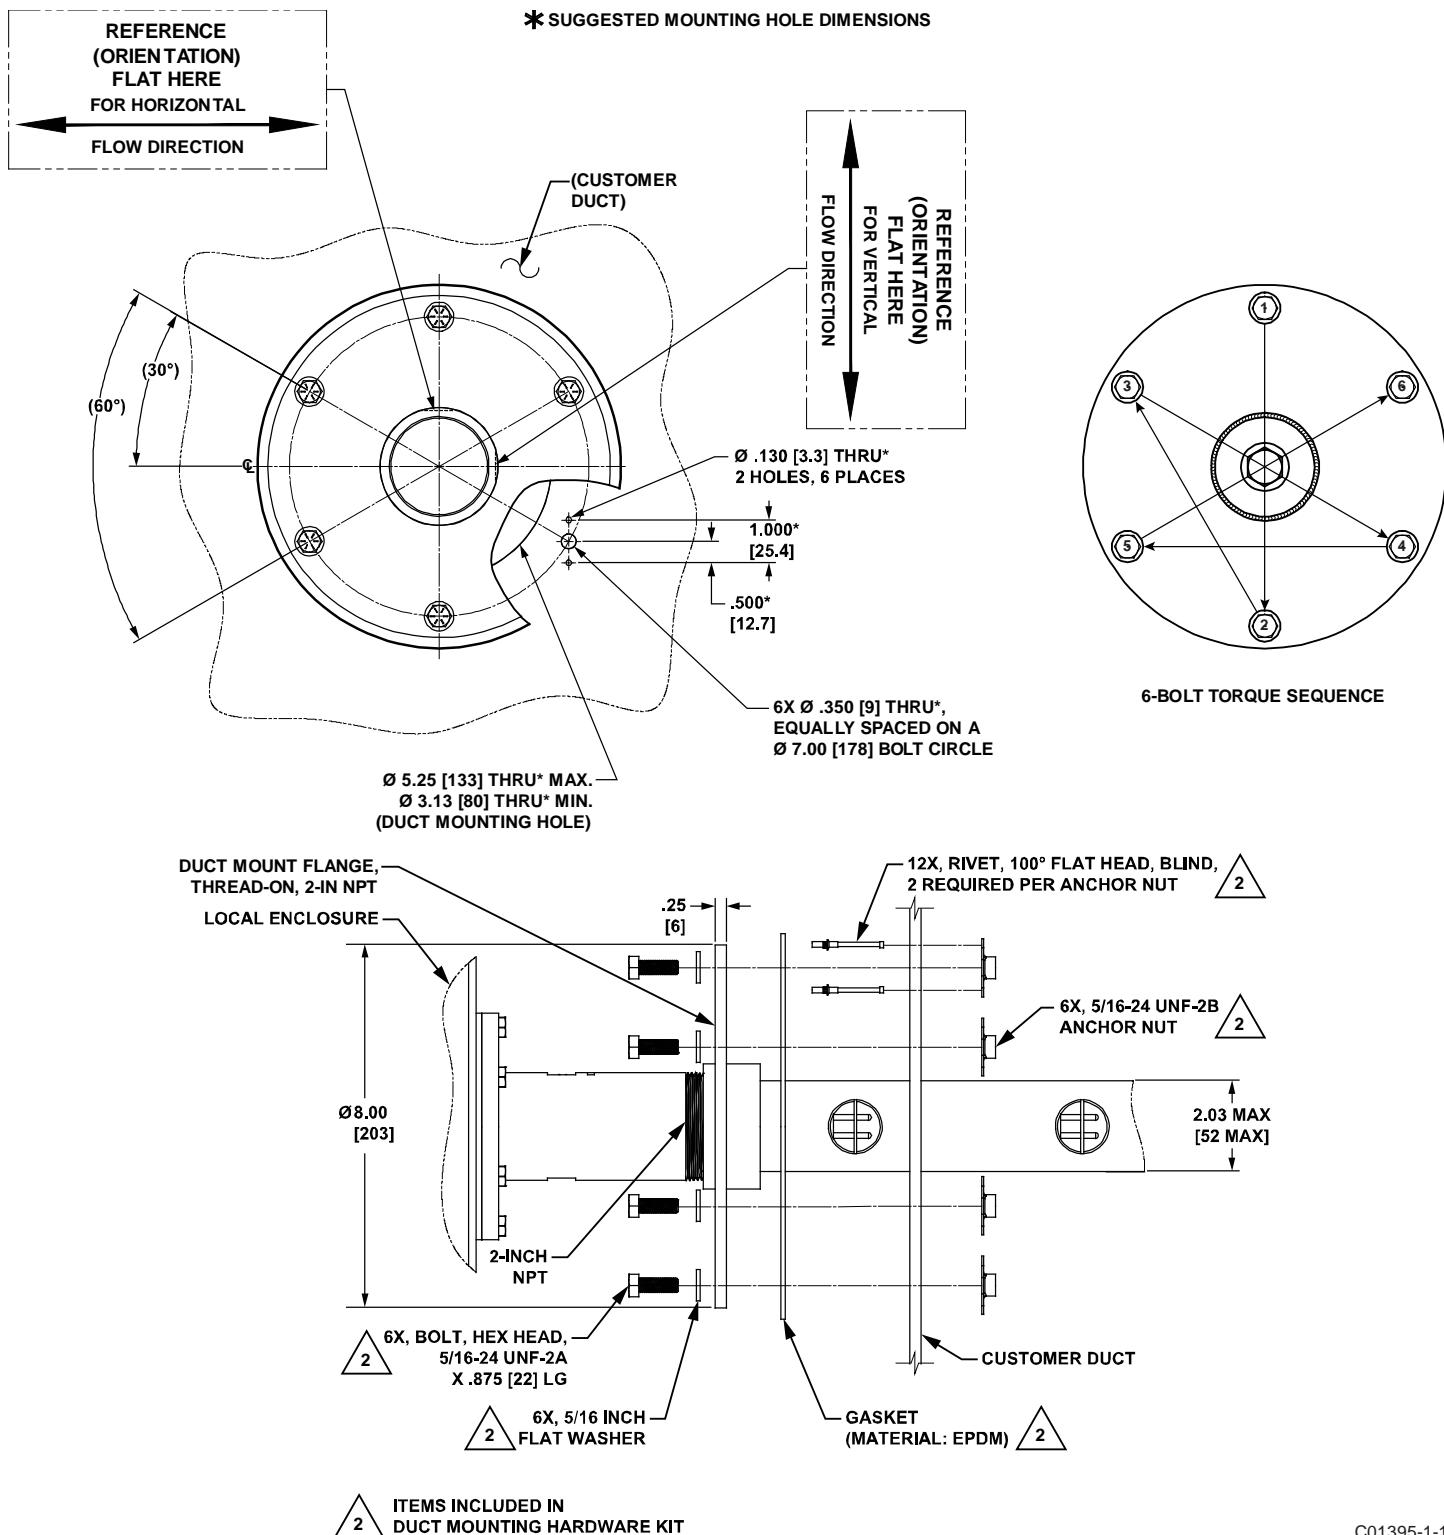
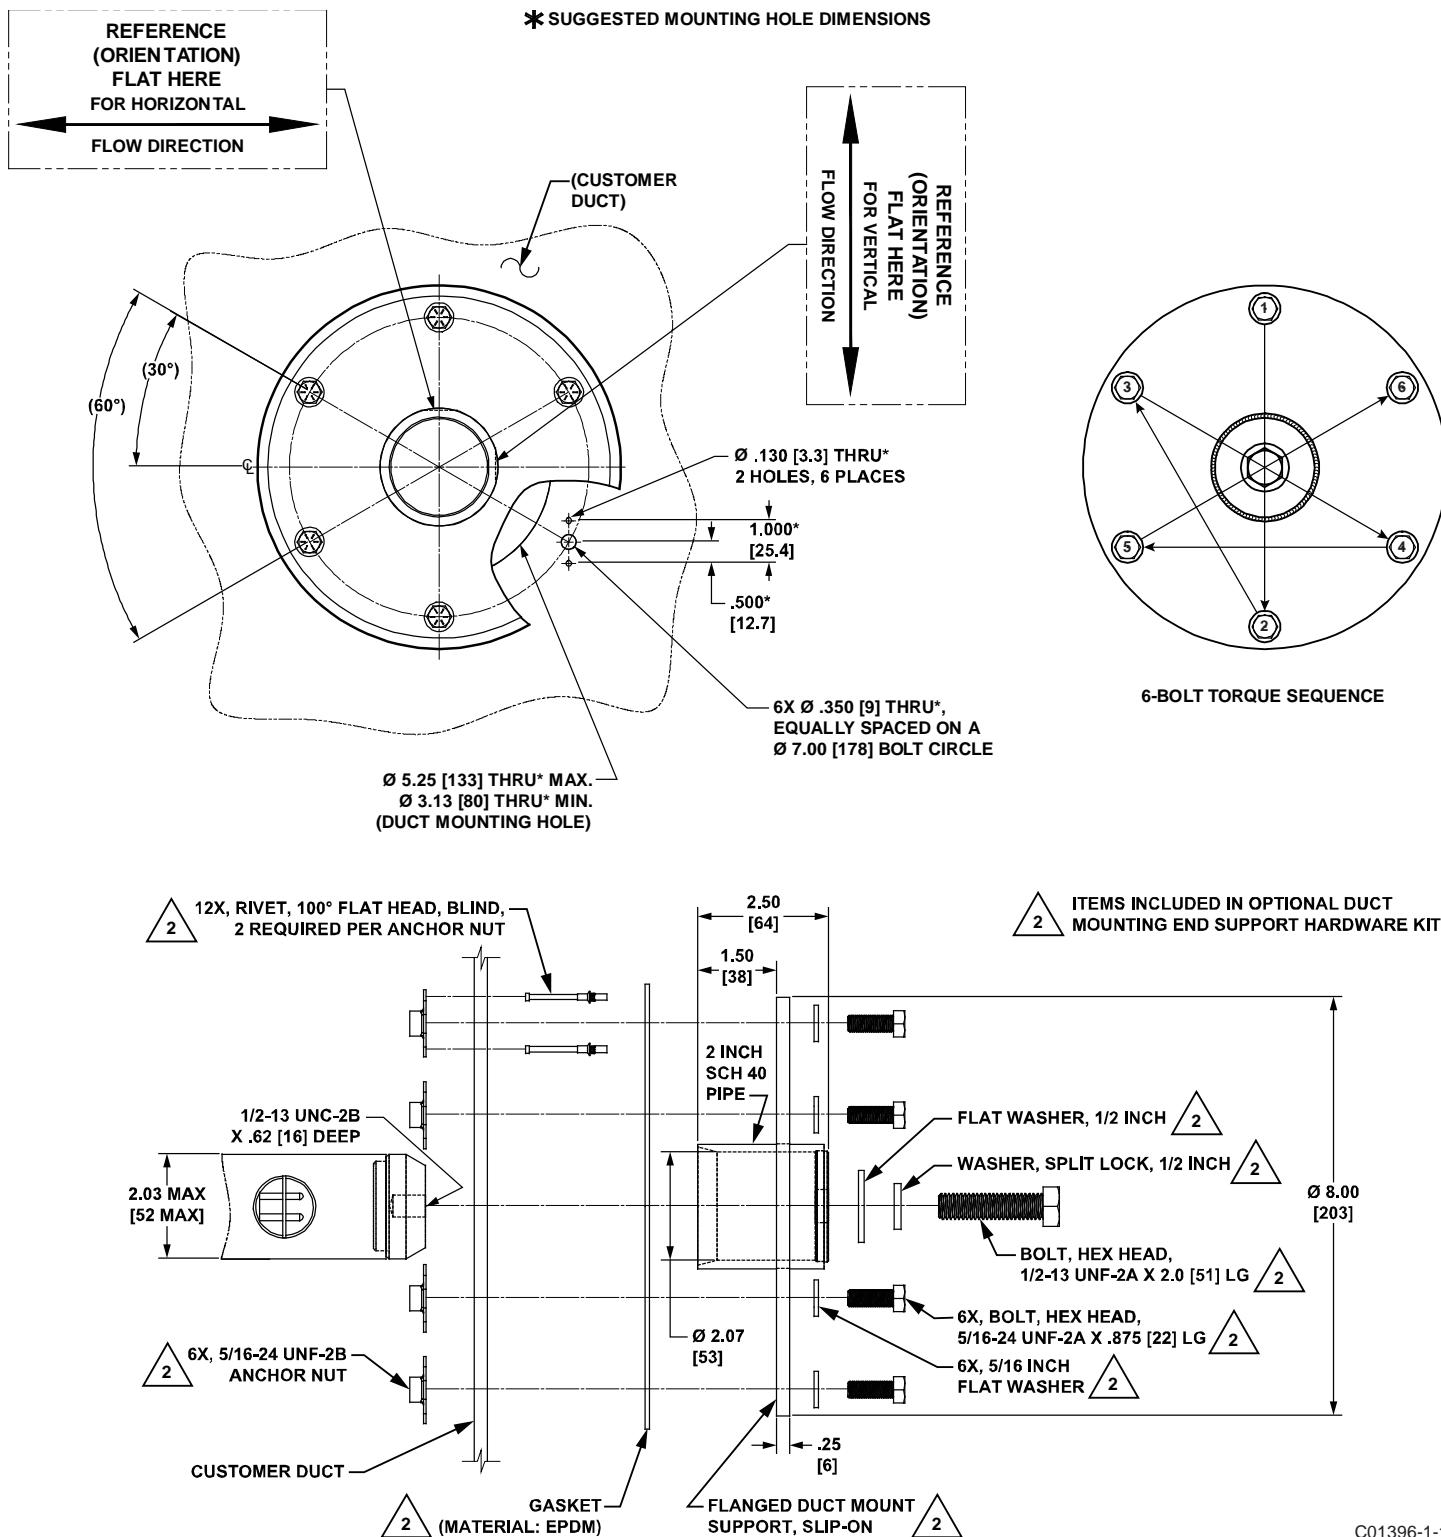

Figure 4 – Duct Flange Mounting, Dimensions, and Mounting Hardware
Figure 5 – Duct Flange Mounting, End Support Hardware (Optional)
1. The exact placement of the flow element is typically predetermined at the time of order. Use hole pattern and hole sizes as shown in Figure 4, page 9 to drill holes for flow element duct mount flange. On opposite side of duct use hole pattern and hole sizes as shown in Figure 5, page 10 to drill holes for flow element duct mount end support.
2. Using supplied end support mounting kit hardware, install flow element's end support as shown in Figure 5. Loosely torque end support securing bolts (6 ea. 5/16-24UNF x .875 lg).
4. Using supplied duct flange mounting kit hardware, install flow element to process duct as shown in Figure 4. Using star pattern bolt torque sequence shown in Figure 4 gradually torque duct flange securing bolts (6 ea. 5/16-24UNF x .875 lg) with final bolt torque at 10 ft-lbs (13.6 N-m).
5. With flow element assembly standpipe captured within end support sleeve loosely install 1/2-13UNF x 2-inch long bolt (included in optional end support mounting kit) into end support sleeve, engaging flow element standpipe (see Figure 5). (Note: Use the alternative installation method that uses a reinforcement plate if the supplied anchor nuts are not adequate for the application.) Using star pattern bolt torque sequence shown in Figure 4 gradually torque end support securing bolts (6 ea. 5/16-24UNF x 1.0 lg) with final bolt torque at 10 ft-lbs (13.6 N-m).